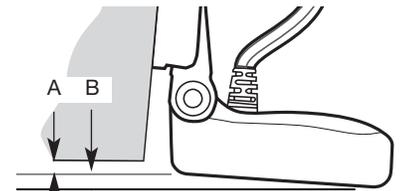

Figure 10
- If you have the correct angle set on the transducer, yet lose a bottom reading at high speed, adjust the transducer to a lower depth in the water. If you reach the top of the screw slots and continue to lack high speed performance, increase the angle of the transducer by lowering the back of the transducer in increments of 1/8" (4 mm); see Figure 10.